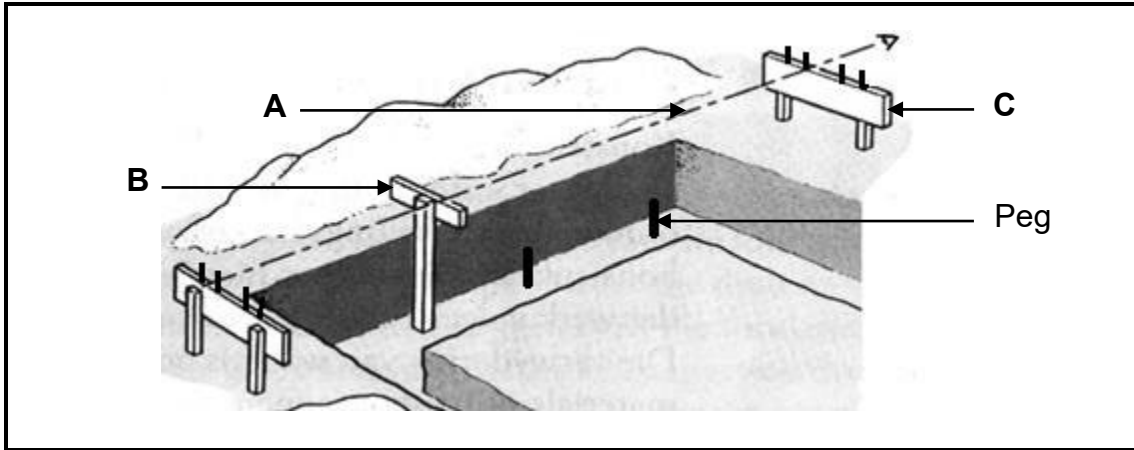

FIGURE 5.1
5.1 Answer the following questions with regard to the foundation excavation in FIGURE 5.1.